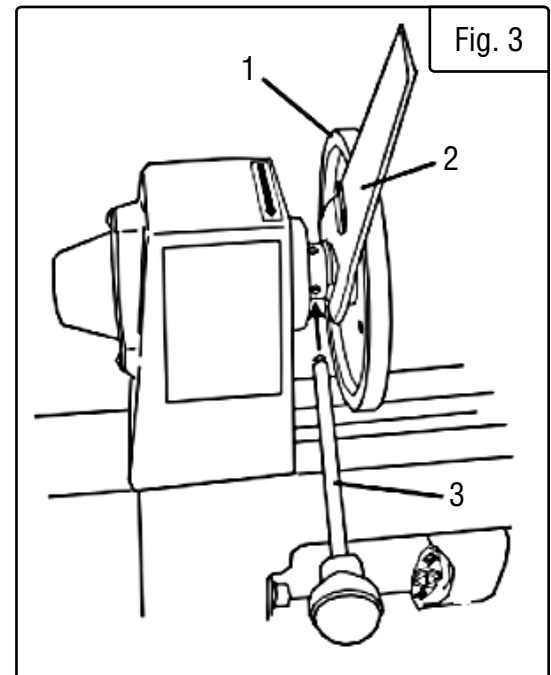

Fig. 3
1. Thread the faceplate (Fig. 3 - 1) onto the end of the headstock spindle and hand tighten.
2. Place the wrench (Fig. 3 - 2) over the flats on the faceplate.
3. Insert the tip of the knockout rod (Fig. 3 - 3) into one of the slots in the side of the headstock spindle.